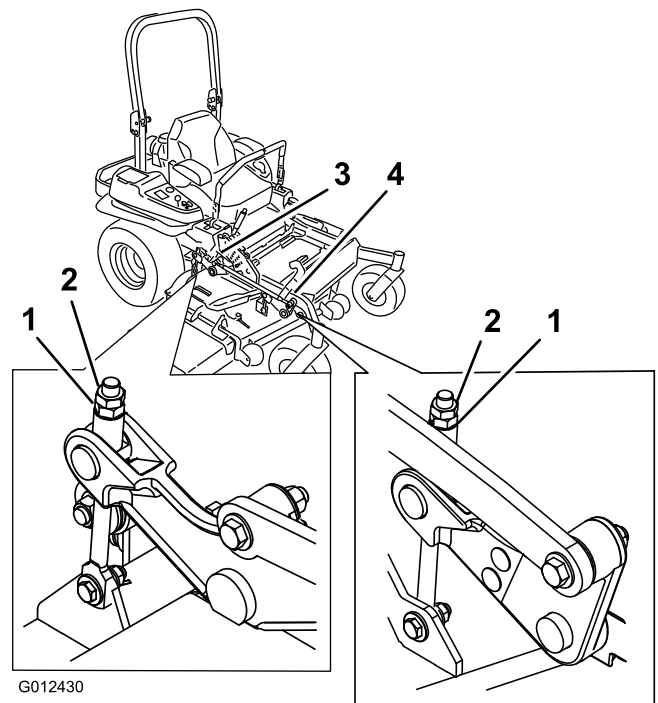

Figure 86
10. Fine-tune the adjustment nut on the front deck lift assembly by turning it (Figure 86).
16. Fine-tune the adjustment nut on the front deck lift assembly by turning it (Figure 86).